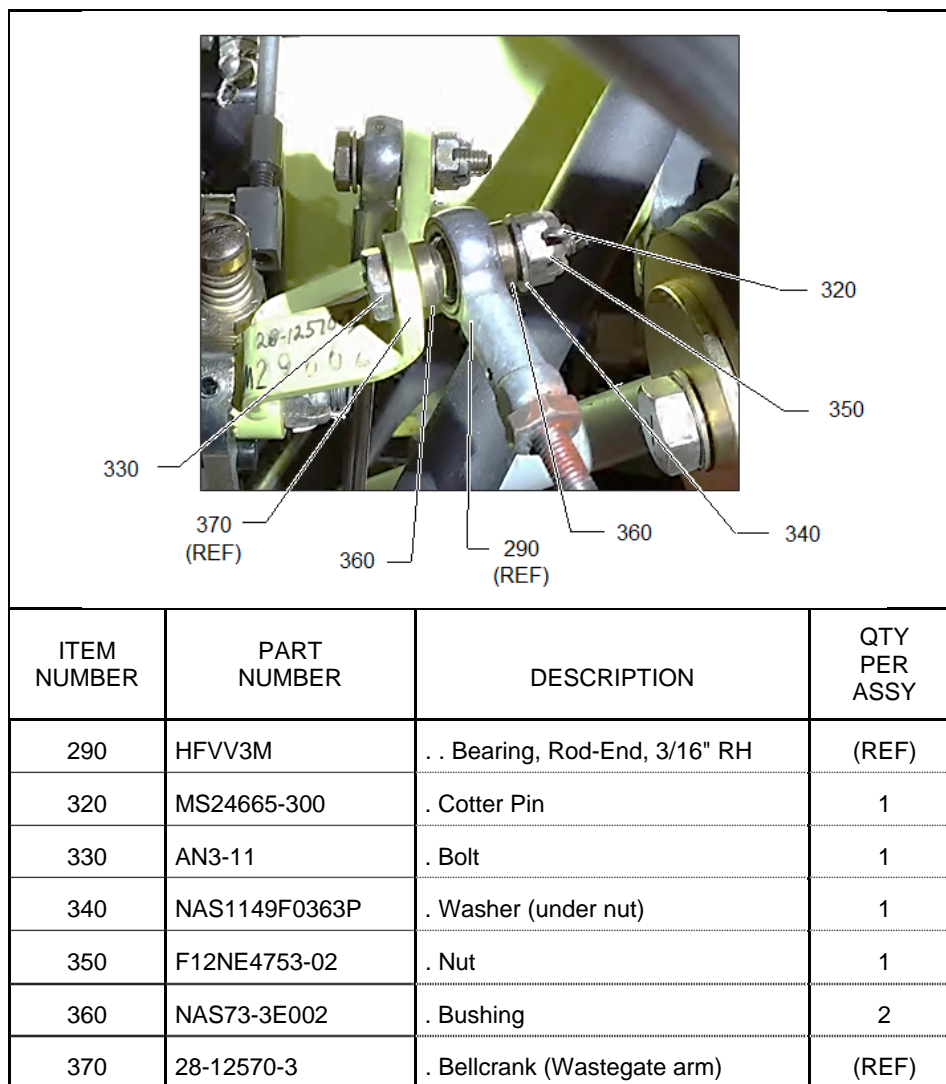

Figure 1. Wastegate Linkage Installation
6.1 Wastegate Linkage Assembly (Figure 1)
Refer to Figure 1 for the parts listing. This information supersedes F-28/280 Series Illustrated Parts Catalog Figure 3-28, Item Numbers 320 through 360
- 6.1.4 Reinstall the wastegate linkage assembly with new hardware in accordance with Figure 1 (torque 15-25 in-lbs/1.7-2.8 Nm).
(Note: Figure 1 supersedes F-28/280 Series Illustrated Parts Catalog Figure 3-28.)